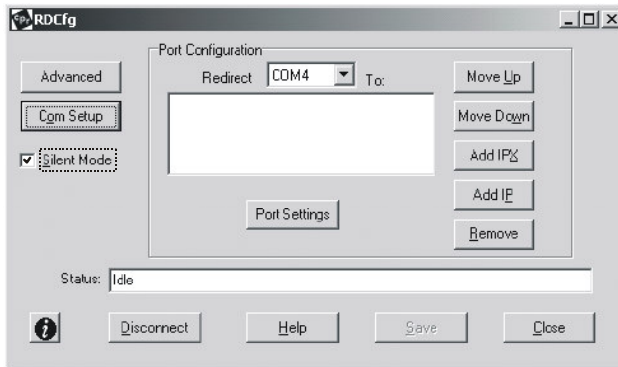

Figure 26: Silent Mode Checked in RDCfg Window
4. To hide the pop-up window, check **Silent Mode** on the Com Port Redirector Configuration window (Figure 26).